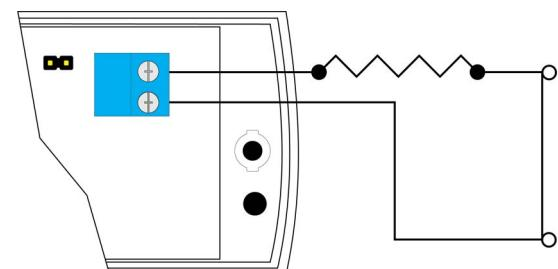

Figure 3 Wired for N/C operation
2. Use 22 AWG wire to wire the 2.2K ohm resistor in series with the N/C contact per Figure 3. The distance from the external contact to the EN1215WEOL must not exceed 10 feet (3 meters).